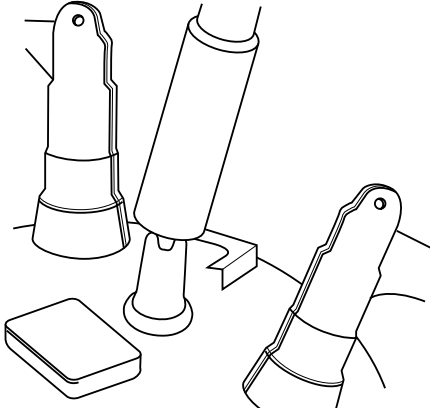

Figure 19. Screw on sealing cap from apparatus.
- Standing in a safe position, use hotstick to reattach the sealing cap by screwing it onto the threads of the Bay-O-Net housing until tight. (See Figure 19.)